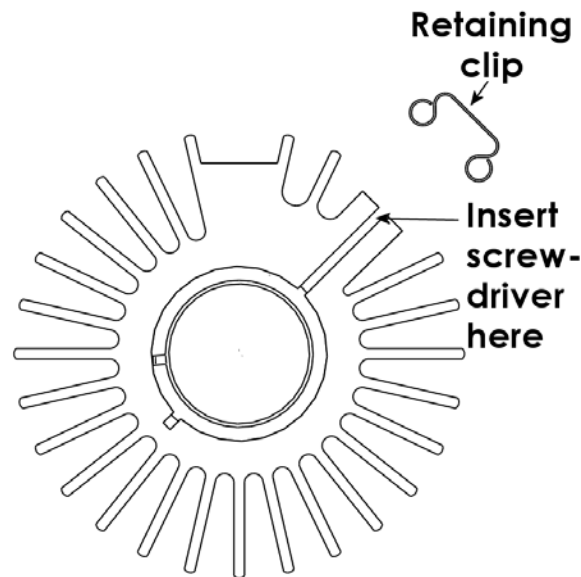

Figure 5-3. Heat sink retaining-clip removal.
3. Pry one of the retaining clips off one of the heat sinks and remove the heat sink. If the heat sink does not come off the bulb, insert a flat screw driver in the side slit of the heat sink and widen the gap (Figure 5-3) to remove the bulb. Repeat with the second heat sink.